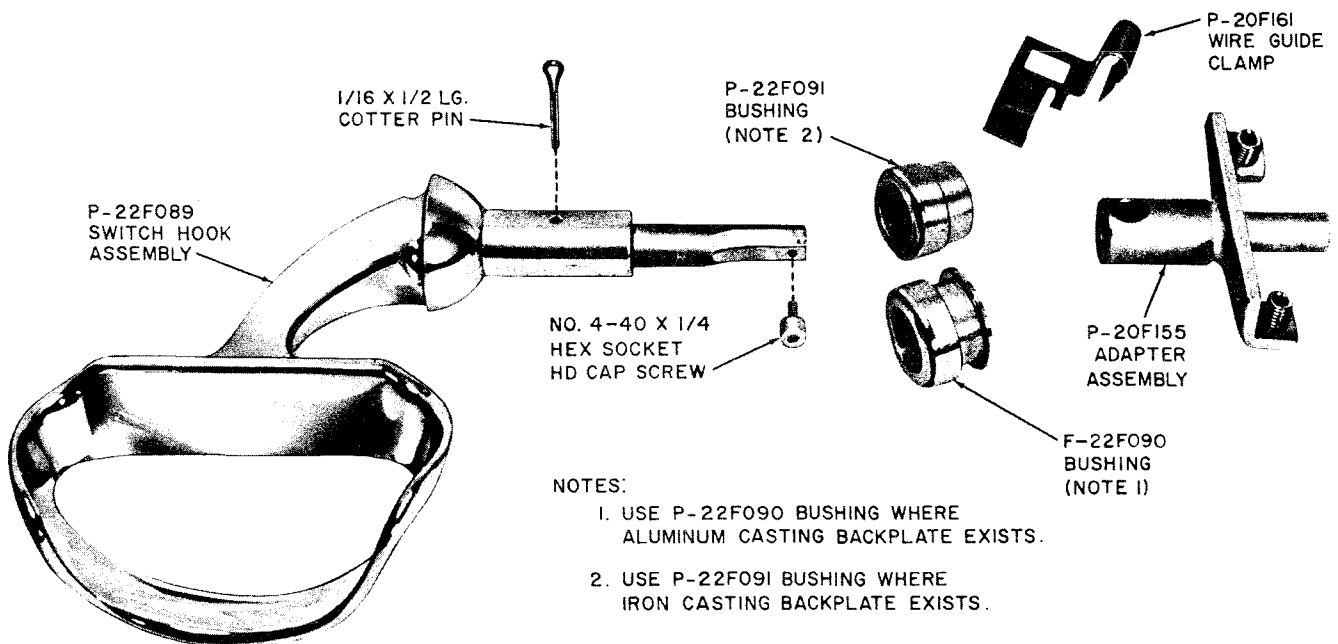

Fig. 32— D-180009 Switch Hook Kit
3.41 The D-180009 switch hook conversion kit (Fig. 32) is designed to place the rotation stops inside the housing to reduce switch hook blocking. It also permits a simple adjustment of switch hook travel.
- (2) Select correct bushing (Fig. 32) and slide over shaft of switch hook.